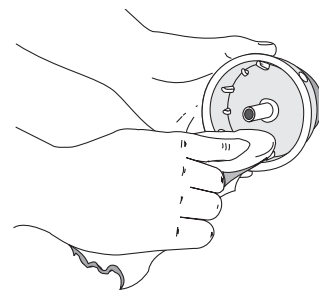

Fig. 24
4. Use a clean cloth to clean the the inner reel, spring, shaft and inner surface of the outer spool (Fig. 24).